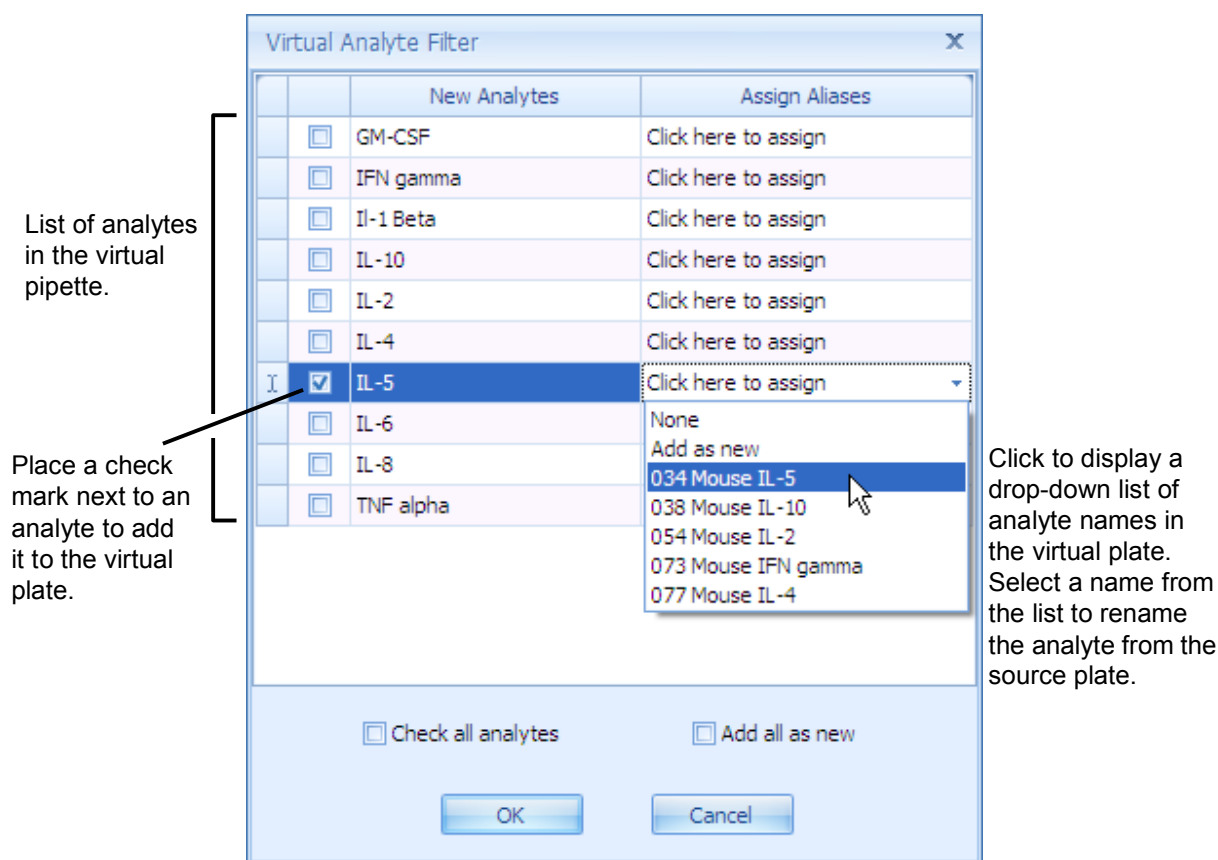

Figure 4.43 Virtual analyte filter
- ⇒ A drop-down list shows the names of the analytes in the virtual plate (Figure 4.43).